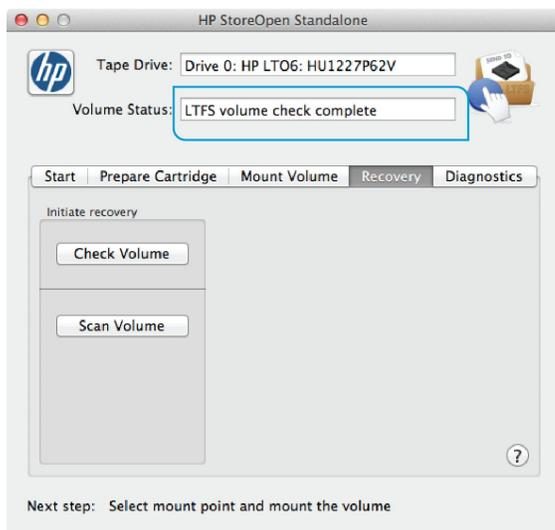

Figure 19. Completed Mac Recovery
7. During the recovery process you can monitor progress by switching to the Diagnostics tab. Note that some error messages may be displayed in the diagnostic output as a result of the issues with the volume, but these can be ignored if the operation completes successfully. The Volume Status will be updated to indicate completion as shown below in figure 19.